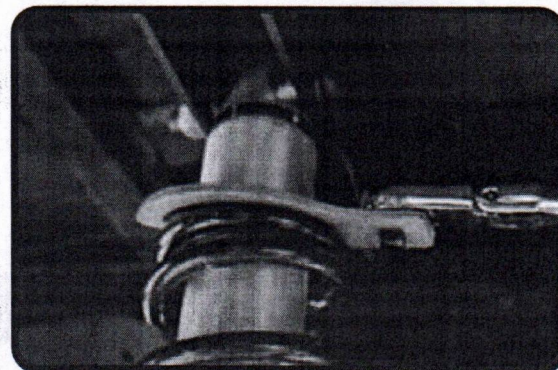

Figure 7
Next, install a delrin washer then coil spring over the top of the shock as seen in figure 7.
9. Using a spanner wrench, thread the nut up or down the shock body to achieve the desired ride height (Figure 7). Tighten the locking screw to secure the adjustment nut in place. Torque to **18 in-lbs.**